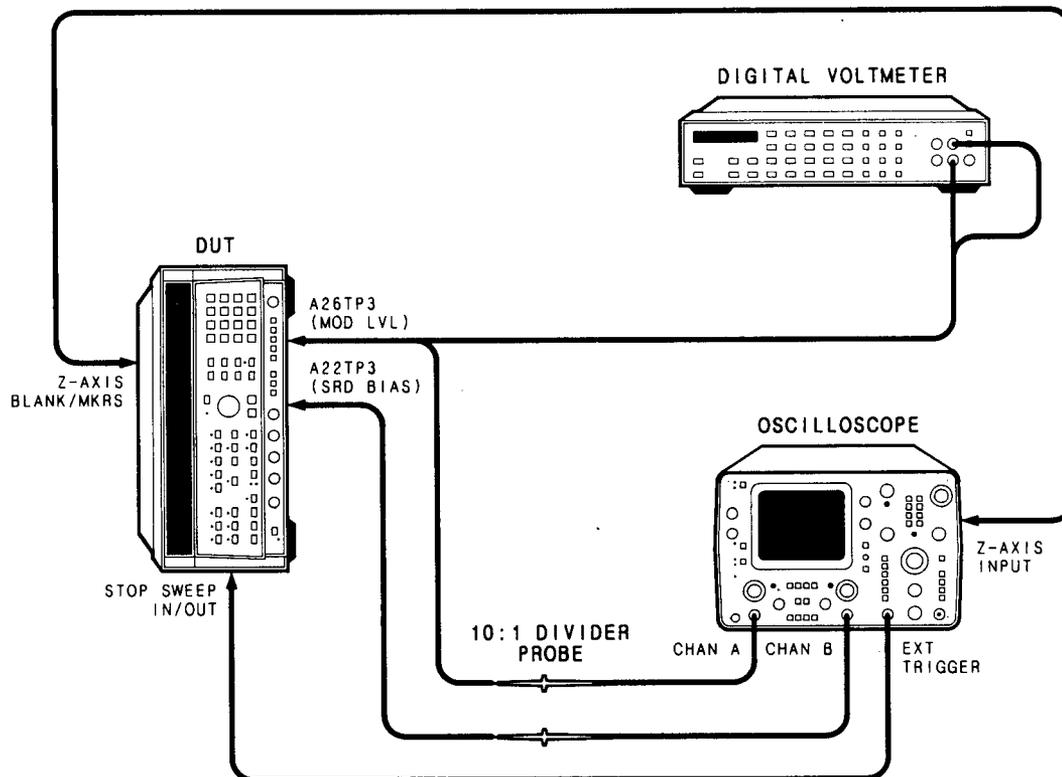

Figure 5-53. Leveled Power SRD Bias Adjustment Test Setup
5. Disconnect the DVM and connect the oscilloscope as shown in Figure 5-53.